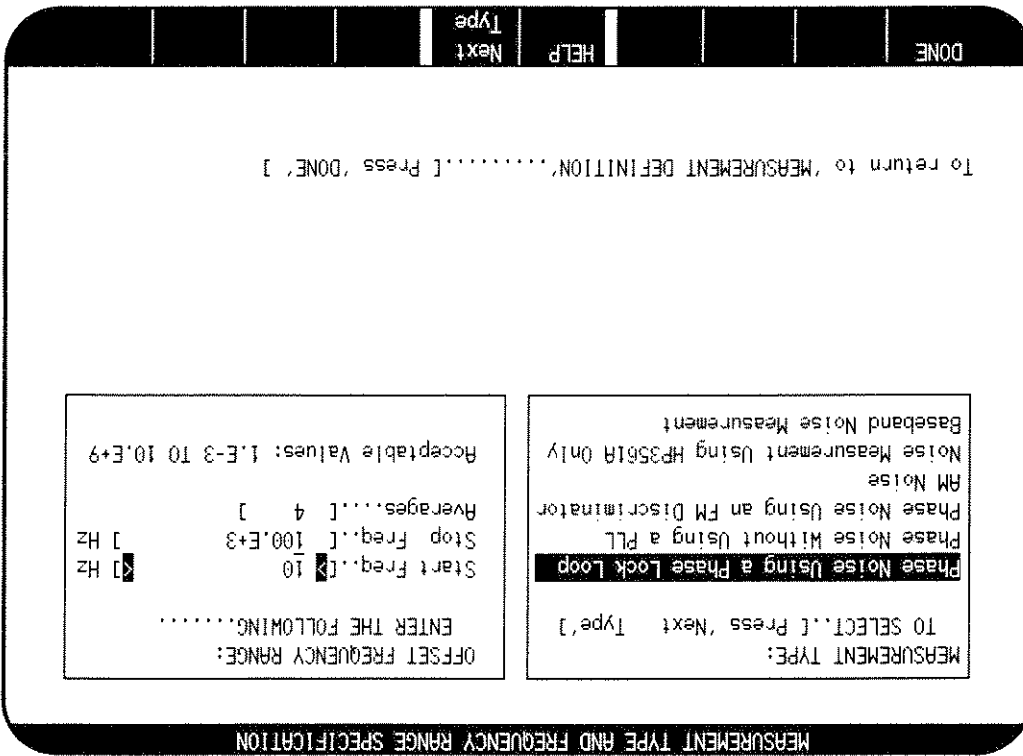

Figure 3-8. Measurement Type and Frequency Range Specification Menu
6. On the HP 3048A press the **Type / Range** softkey to obtain the Measurement Type and Frequency Range Specification menu. Set the measurement type and offset frequency range as shown in figure 3-8. When done, press the **DONE** softkey.